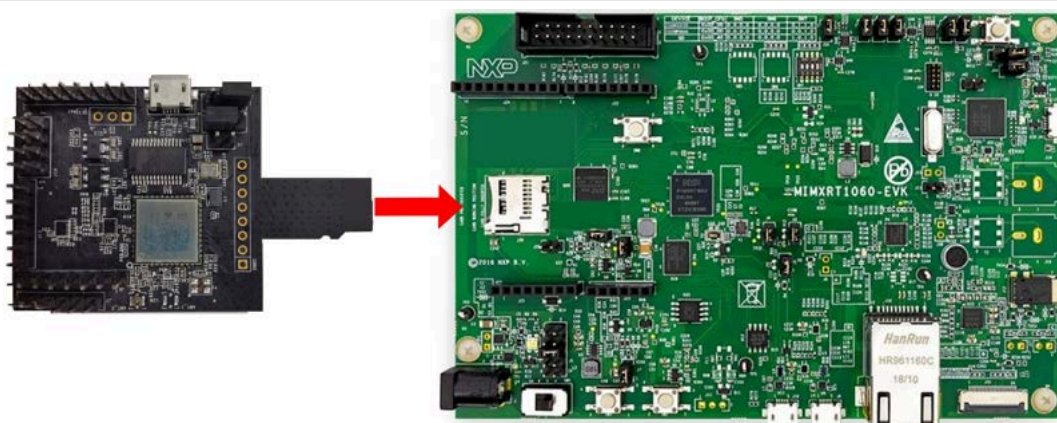

Figure 18. Connecting AW-CM358-uSD adapter board to i.MX RT1060 EVK board
- Plug AW-CM358-uSD adapter board into the Micro SD slot of i.MX RT1060 EVK board (Figure 18).